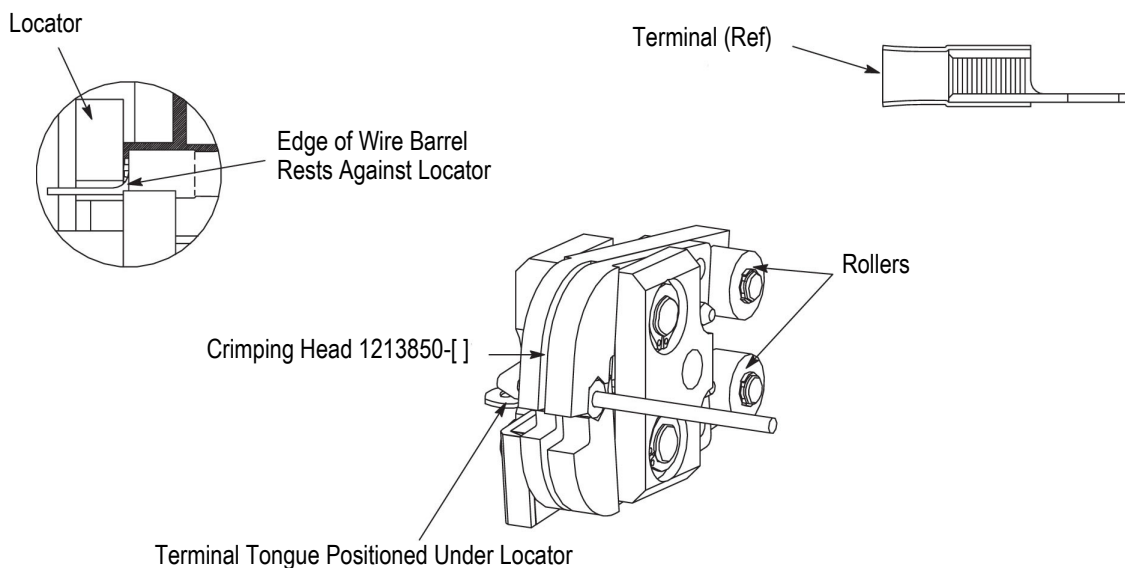

Figure 3
3. Then position a terminal between the crimping jaws as shown in Figure 3. The edge of the terminal wire barrel must rest against the locator.